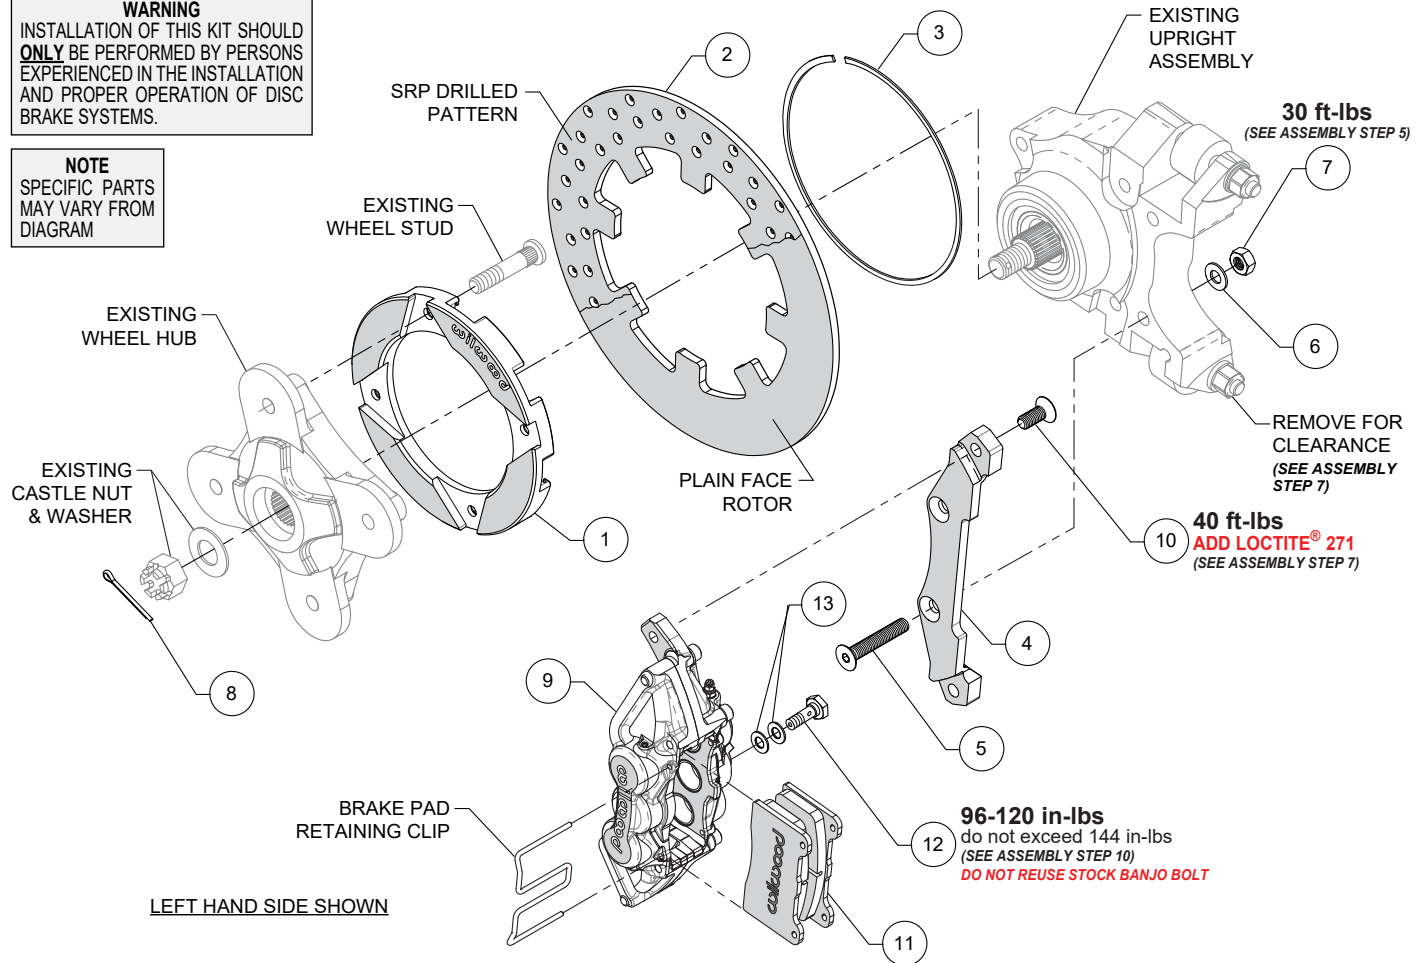

Figure 1. Typical Installation Configuration
**NOTE:** Numbers in parenthesis refer to the parts list and Figure 1 on the preceding pages.
**STEP 2** Place the existing OEM wheel hub face down and position the rotor adapter (1) onto the wheel hub as shown in Photo 1. **NOTE:** The existing wheel hub must be free of dirt and debris or excessive rotor run out may result. Press the OEM wheel studs back in through the rotor adapter and OEM wheel hub.
**STEP 3** Position the rotor (2) onto the rotor adapter (1), making sure the rotor lugs fit into the recesses of the rotor adapter, as shown in Photo 2.
**STEP 4** Secure rotor to the rotor adapter using the snap ring (3) by installing the snap ring into the groove of the rotor adapter, as shown in Photos 3 and 4. Carefully inspect snap ring to ensure complete engagement in the groove.
**STEP 5** Orient the caliper mounting bracket (4), as shown in Figure 1 and Photos 5 and 6. Install using bolts (5), washers (6), and nuts (7). Torque lock nut to value shown in Figure 1.
**STEP 6** Grease the splines and outer snout of the existing wheel hub with high temperature grease and slide the wheel hub/rotor assembly onto the axle, Photo 7. Attach using the existing OEM washer and castle nut. Tighten to OEM specifications and secure using cotter pin (8), Photo 8.
**STEP 7** Secure the caliper (9) to mounting bracket (4) using bolts (10), Figure 1. **NOTE:** To properly access and torque the lower caliper mounting bolt, the nut and bolt that secures the lower suspension arm to the upright must be removed, allowing the suspension arm to be lowered out of the way, Photo 9. Apply red Loctite® 271 to the bolt threads (10), and torque to value shown in Figure 1.
**STEP 8** Remove the pad retainer clip from the caliper (9). Insert the brake pads (11) into the caliper with the friction material facing the rotor, as shown in Photo 10. Reinstall the pad retainer clip, Photo 11.
**STEP 10** Attach brake line to caliper. Orient brake line as shown in Photo 11 and connect to caliper using banjo bolt (12) and crush washers (13). Do not use lubricant or thread sealant on banjo bolt (12). Torque to minimum value shown in Figure 1. Check for leakage, increasing torque only to stop leakage without exceeding maximum specification. Replace crush washers and banjo bolt whenever reassembly is required. **Ensure hoses are routed to prevent contact with moving suspension, brake or wheel components.**